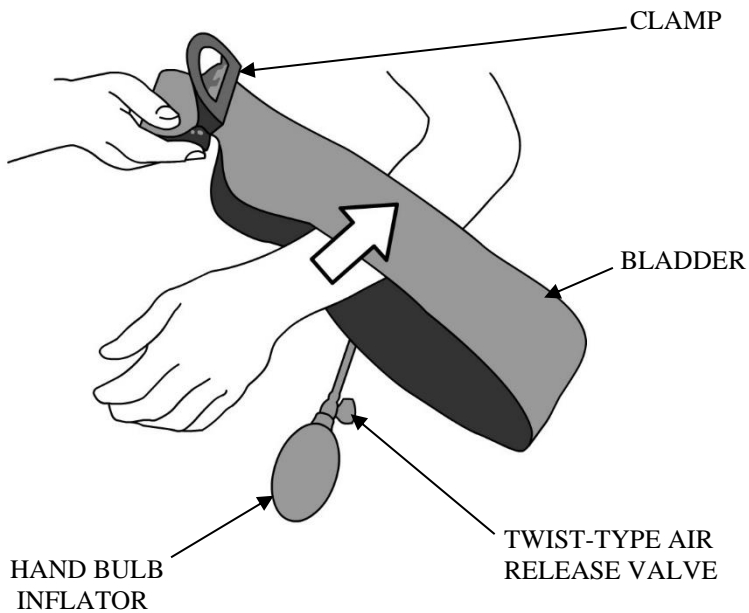
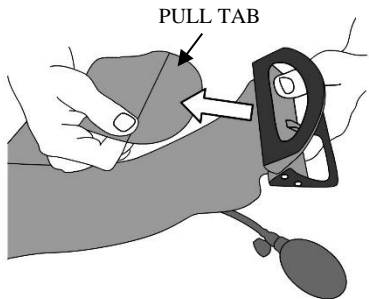
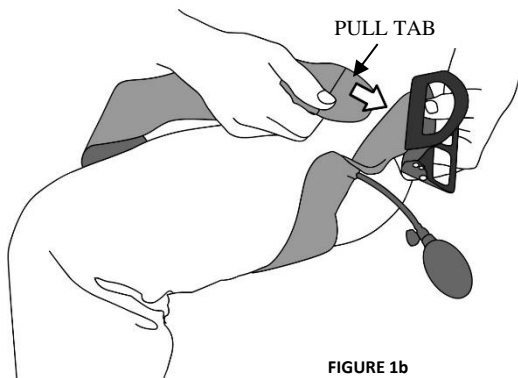

FIGURE 1
FIGURE 1a
FIGURE 1b
3. Position the tourniquet proximal to the wound by passing the looped tourniquet over the distal end of the injured limb (see Fig. 1). **If access over the limb is impossible**, unthread the tourniquet bladder from the clamp (Fig. 1a), wrap the bladder around the limb, and rethread the bladder through the clamp (Fig. 1b).
If required, rethread the loose end of the EMT bladder through the clamp (as shown in Fig. 1b). Ensure that the twist-type air release valve is closed. With the clamp in the open position, stow the inflation bulb in the space between the two clamp halves and roll the bladder loosely around the clamp. The tourniquet can also be stored laying flat with the clamp in the open position.